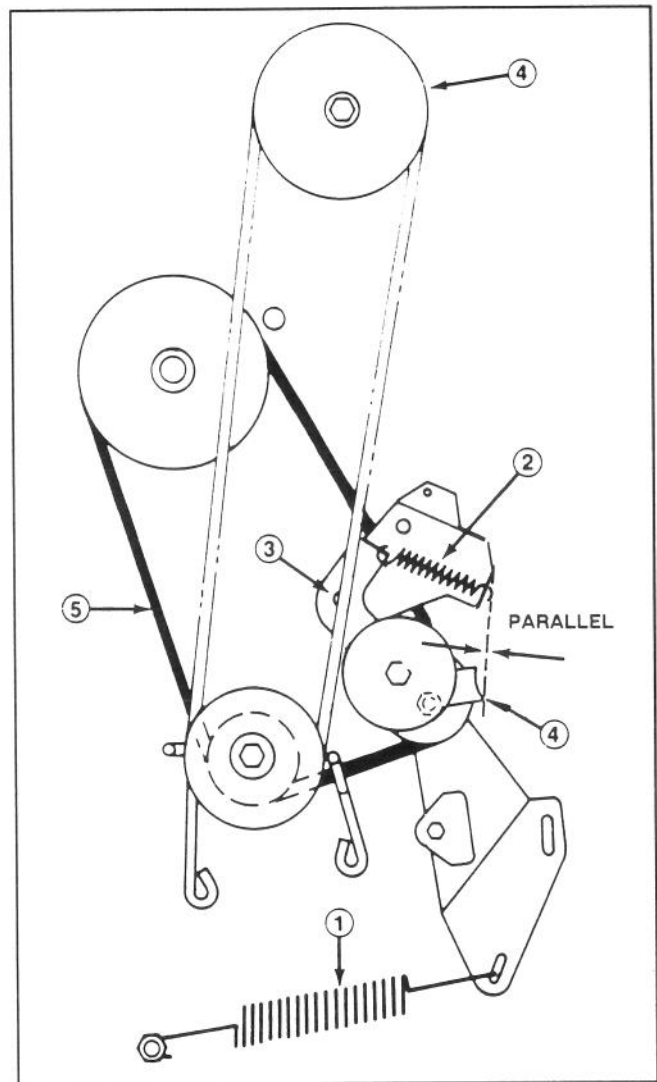

Figure 20
7. Unhook the large traction spring from the mounting screw (Fig. 20). Use caution when removing the spring as it is highly tensioned.
8. Unhook the idler spring from the idler bracket (Fig. 20).
9. Remove the locknut and washer securing the idler bracket to the frame and remove the bracket (Fig. 20).
10. Loosen the locknut on the pulley until the belt guide can be removed (Fig. 20). Remove the belt from all pulleys.
Note: When reinstalling the belt guide to the idler pulley, make sure the edge of the belt guide is parallel to the belt as shown in Figure 20.